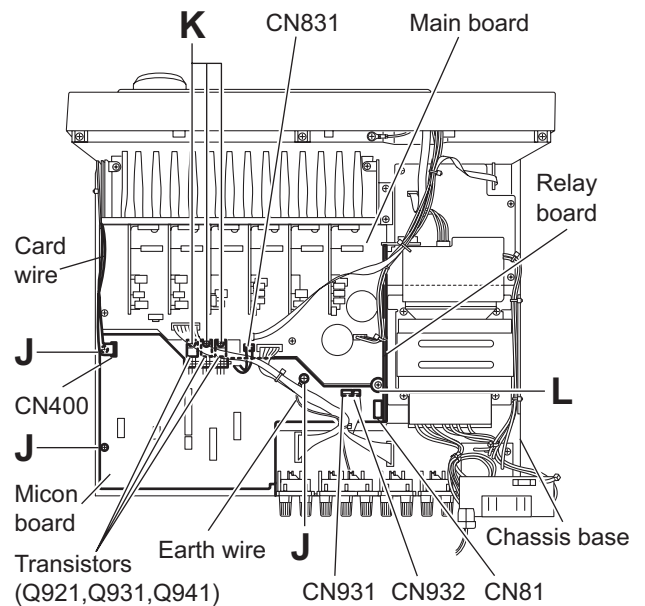

Fig.7
3.6 Removing the micon board (See Fig.7)